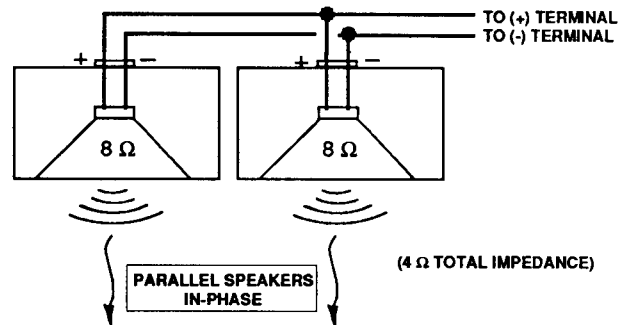

Figure 4
- A. When you connect speakers to the TO SPEAKERS jacks on the Mixer's rear panel, you are connecting them in parallel (see Figure 4). For example, if you are using two Electro-Voice 100S speakers (8 Ω each), the total impedance will equal 4 Ω .